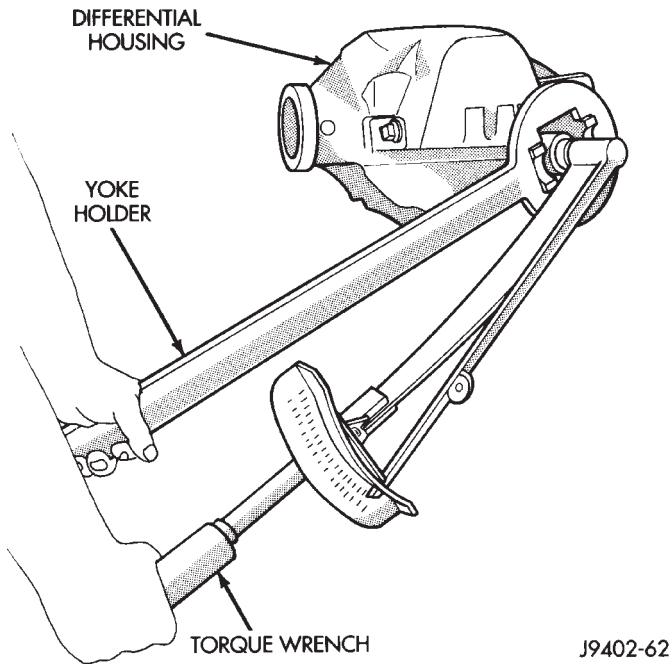

Fig. 16 Tightening Pinion Shaft Nut
(9) Hold pinion yoke with Yoke Holder 6719 and tighten shaft nut to 285 N·m (210 ft. lbs.) (Fig. 16). Rotate pinion shaft several revolutions to ensure the bearing rollers are seated.
(11) If the rotating torque is low, use Yoke Holder 6719 to hold the pinion yoke (Fig. 16) and tighten the pinion shaft nut in 6.8 N·m (5 ft. lbs.) increments until proper rotating torque is achieved.